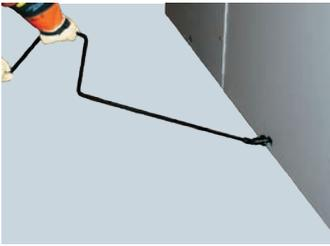

Figure 38: Racking of circuit breaker
1. Insert the racking crank on the racking screw on the front of the circuit breaker cell, and push in (refer to "Racking crank engagement procedure" on page 50). This action operates the racking interlock latch. Figure 38: Racking of a circuit breaker shows racking of a circuit breaker.